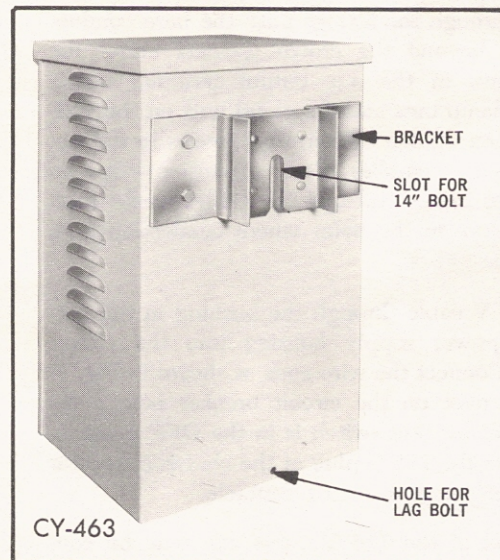

Fig. 6
3. Slip the upper (slotted) mounting bracket (Fig. 6) onto the bolt so that the bracket is between the bolt head and the washer.